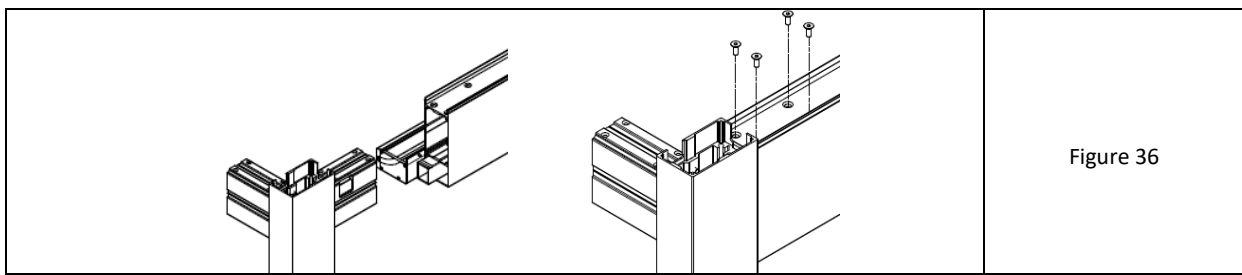

Figure 36
17. In the vertical position insert the posts with correct feet into both ends of the second lengthwise beam. The lower outflows in the lengthwise beam enter a square window in the post (on the narrower side) below the bone. Bone from the post to the upper chamber of the beam (fig. 36).
18. Screw the corner from above using 4 countersunk screws M8x20 with Allen socket (fig. 36-right).